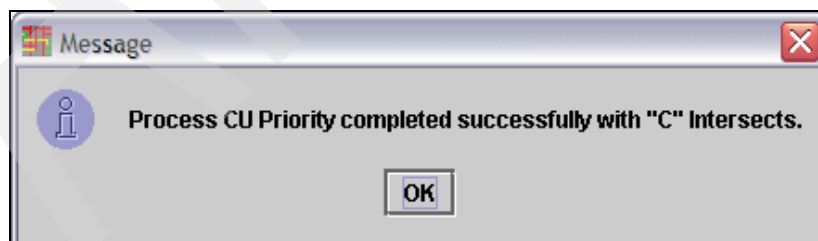

Figure 5-36 CMT - Process CU Priority completion message
- After the CHPID Mapping Tool has assigned the CHPIDs, a message indicating the results of the process is displayed (Figure 5-36).